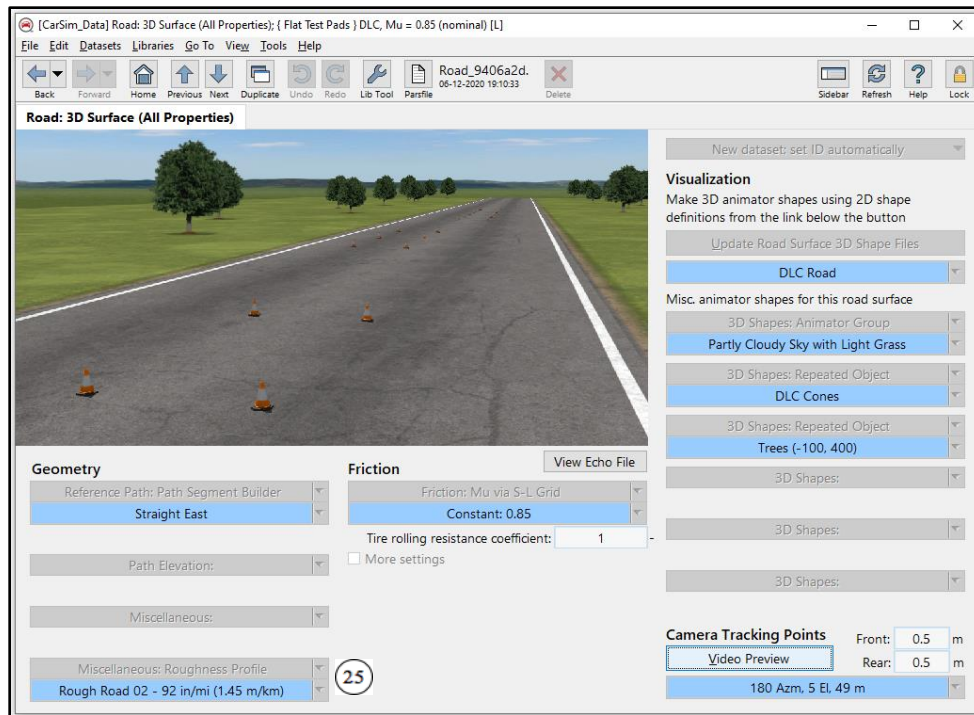
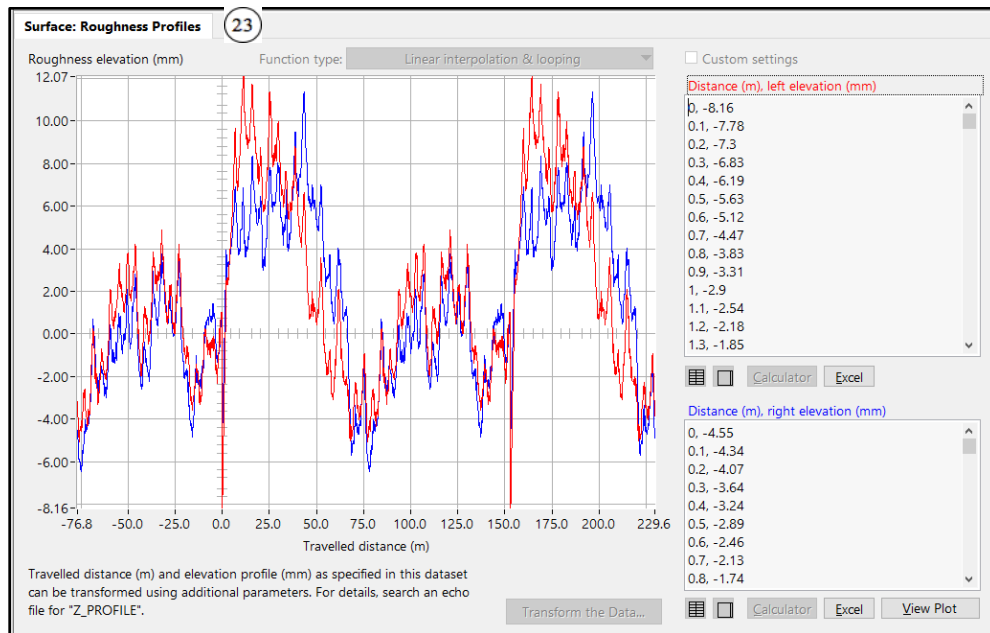

Figure 12: Road screen where Road Roughness VS Browser data are imported
Figure 13: Road Roughness data used in the VS Browser for left and right sides
The original dZ road roughness data are used in a separate example that utilizes the Road: Surface Roughness dataset in the VS Browser. That example is found in the **Road Networks: 3D Geometry and Terrain** Category, with Dataset name **Baseline (nominal profile)** and the loaded Roughness Profile (23) (Figure 13) is found in the **Road: 3D Surface (All Properties)** library located in the **Path and Road Surfaces** category (Figure 12).